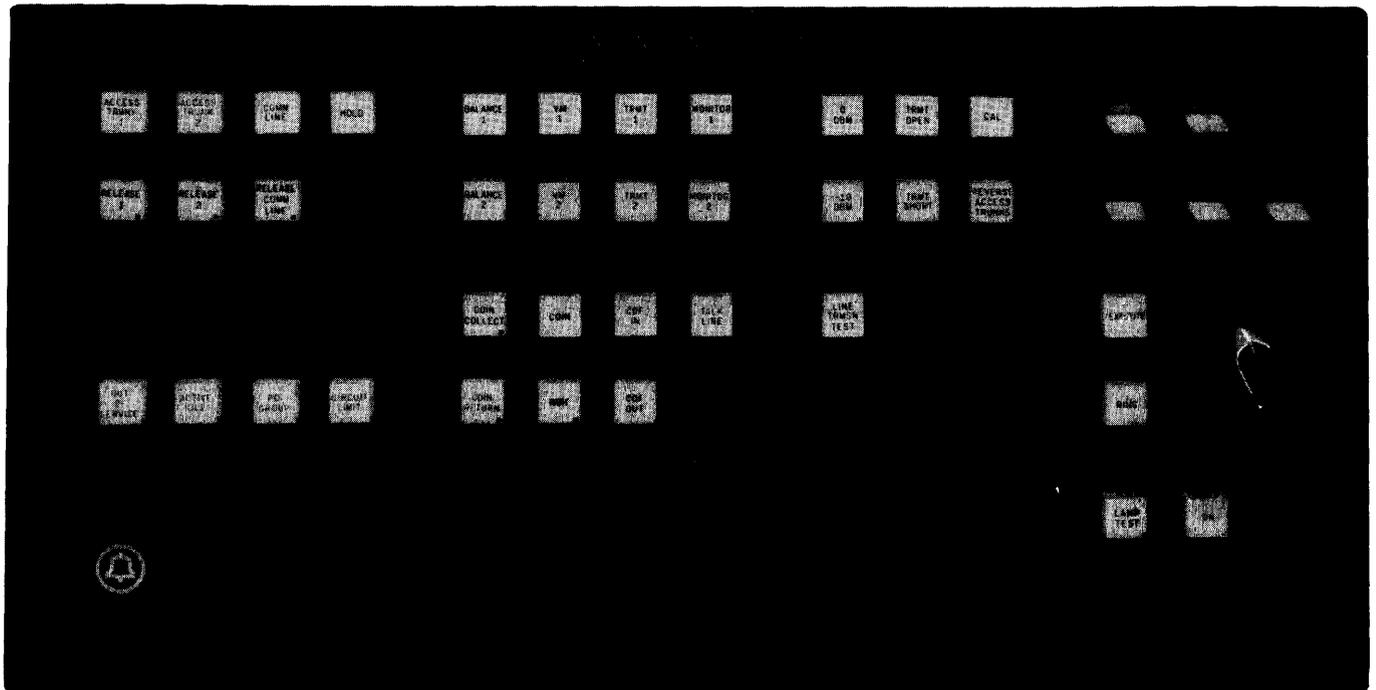

Fig. 1—Trunk and Line Test Panel
**3.02** The TLTP (Fig. 1) is a manual test facility for performing various transmission and operational tests on trunks, service circuits, lines, and junctors.